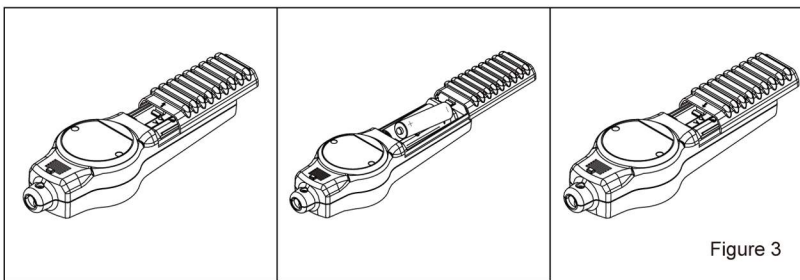

Figure 3
◆ **Battery replacement and installation, as shown in Figure 3:**
1. See Figure 3. Using a thumb to push open the battery door located at the bottom of the detector; then remove the door.